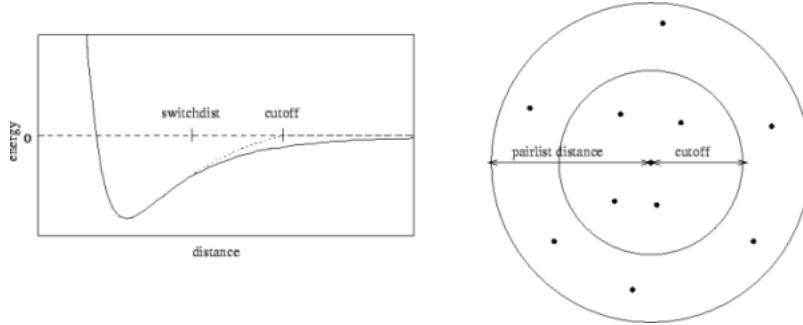

Figure 5: Cutoff and switching distances indicated on the left. Pair list distance indicated on the right.
- `switchdist`: indicates the distance in Å at which the functional form of electrostatic and van der Waals interactions is modified to allow their values to approach zero at the `cutoff` distance. A visual explanation of this is useful and may be found in Figure 5.
for atoms which may interact by electrostatic or van der Waals interactions. This way, NAMD does not have to search the entire system. The distance must be greater than the **cutoff** distance, and the list must be updated during the simulation. See Figure 5.